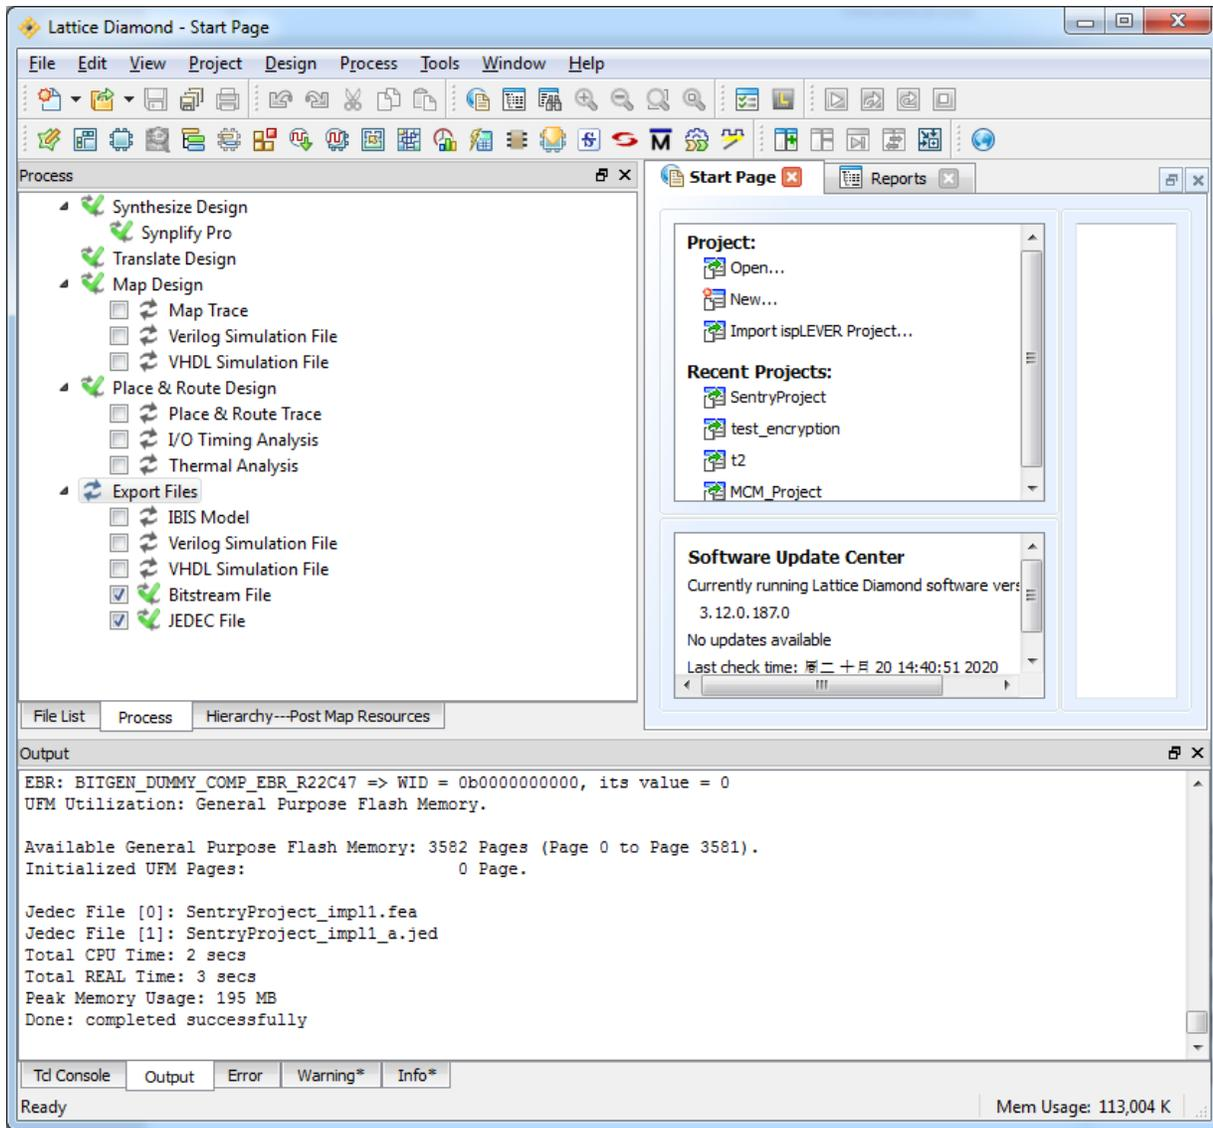

Figure 2.45. Generate Programming Files
- e. Switch to **Process** view of the Diamond project (Figure 2.45). Make sure at least one programming file (IBIS Model, Verilog Simulation File, VHDL Simulation File, Bitstream File, or JEDEC file) is selected in the **Export Files** section. Available programming files can be different upon specific device included.